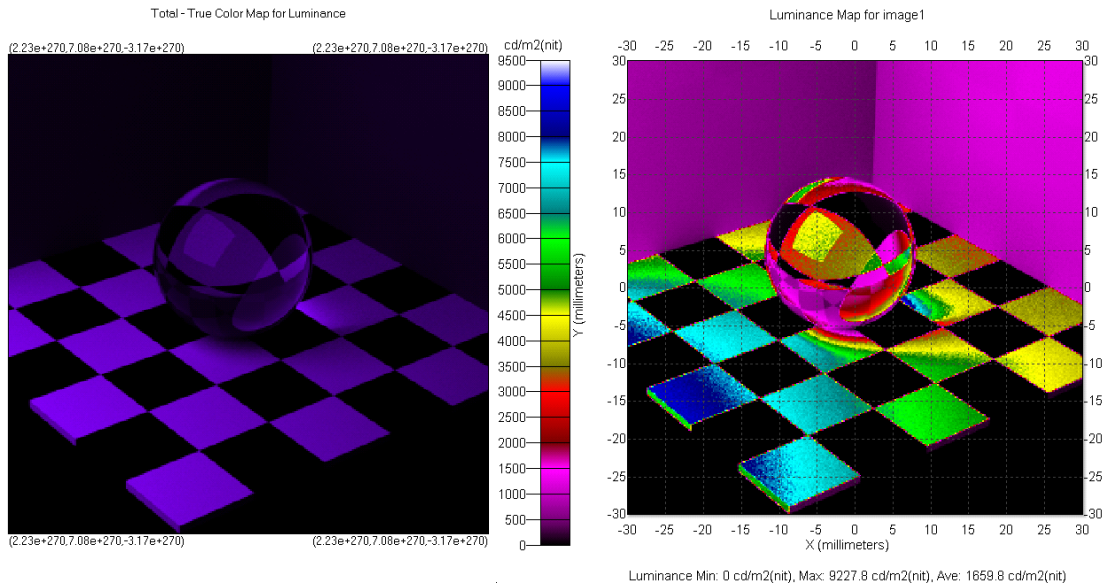

FIGURE 9.71 - Display map results with auto importance sampling.
2. Open the file and manipulate the view to one similar to that shown in Figure 9.71. Hint: make the window small for a faster rendering, as the render time is proportional to the number of pixels in the window. Additional hint: Once you have the view the way you want it, save the view using **View|Named Views**, and then save the model. This will make it easier to repeat the rendering in a future TracePro session by recalling the named view.